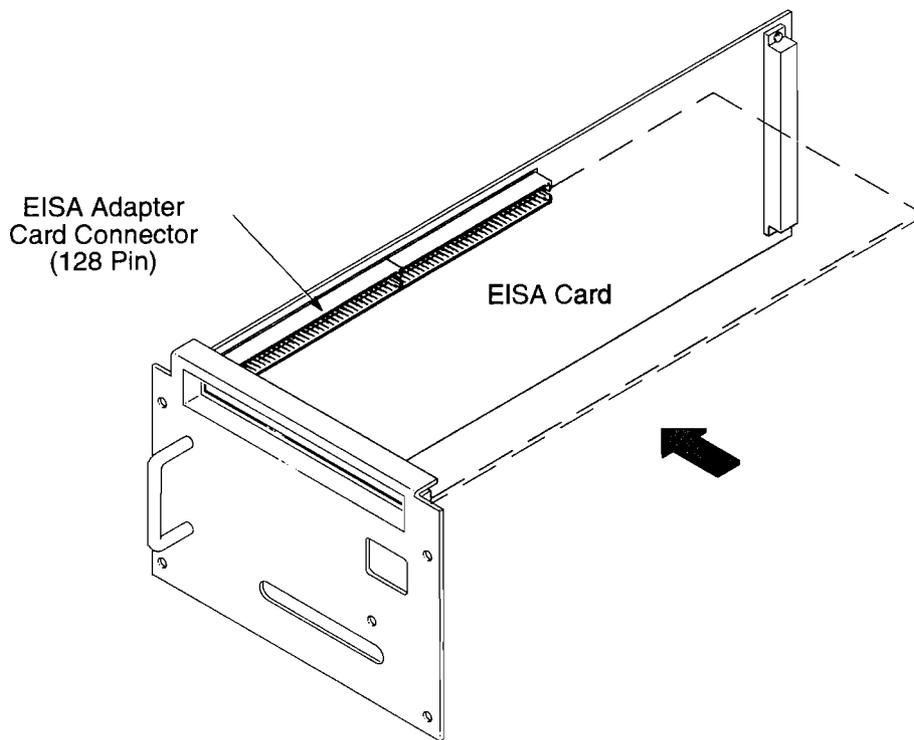

Figure B-8. Installing the EISA Card
7. Slide the EISA card into the adapter assembly. Make sure that the EISA card is securely placed into the connector on the adapter card assembly, as shown in Figure B-8.